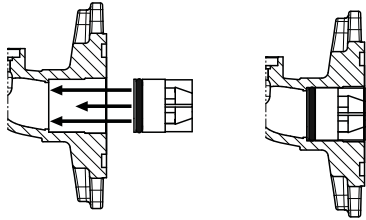

Fig. 2 Check valve installation
- Insert check valve only if required, see fig. 2.